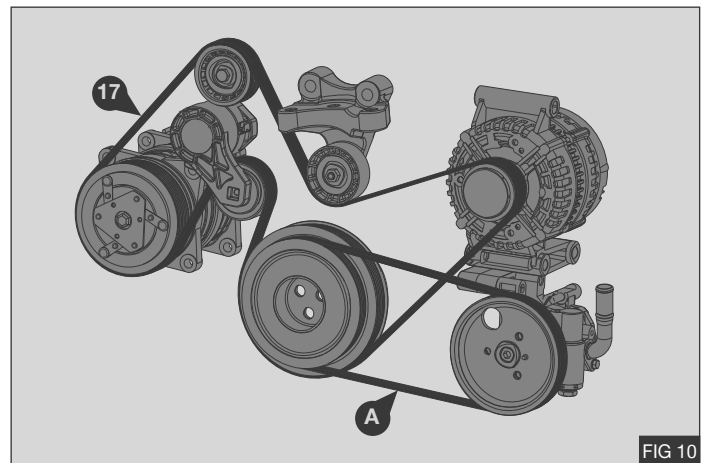

FIG 10
1. Fit the supplied threaded pillar (26) to the position shown - Fig 10